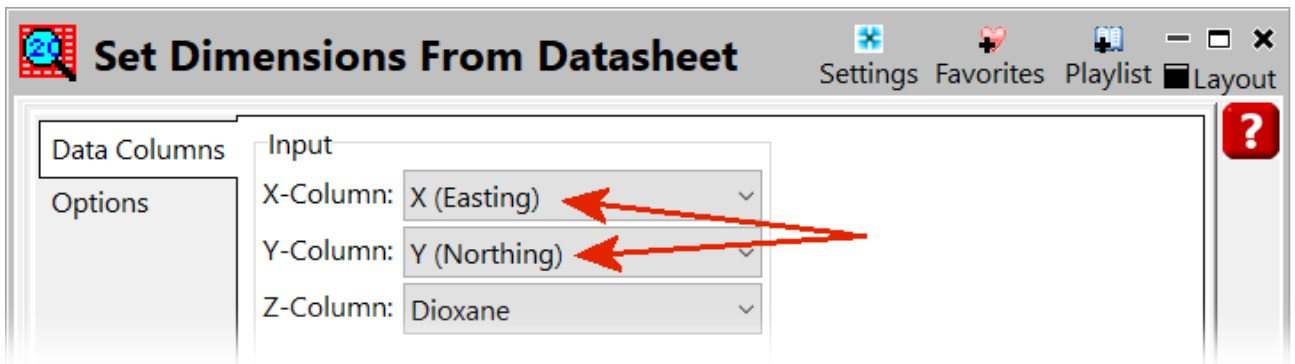

Figure 17
- Define the columns within the datasheet that contain the XY coordinates and set the “Z-Column” to the Dioxane column (Figure 17).